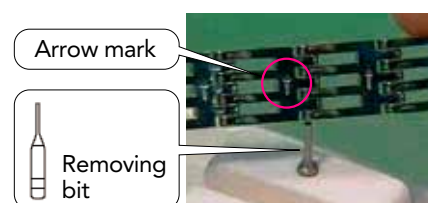

Fig.1
- 1) Install a removing bit on the S-926.(Fig.1)